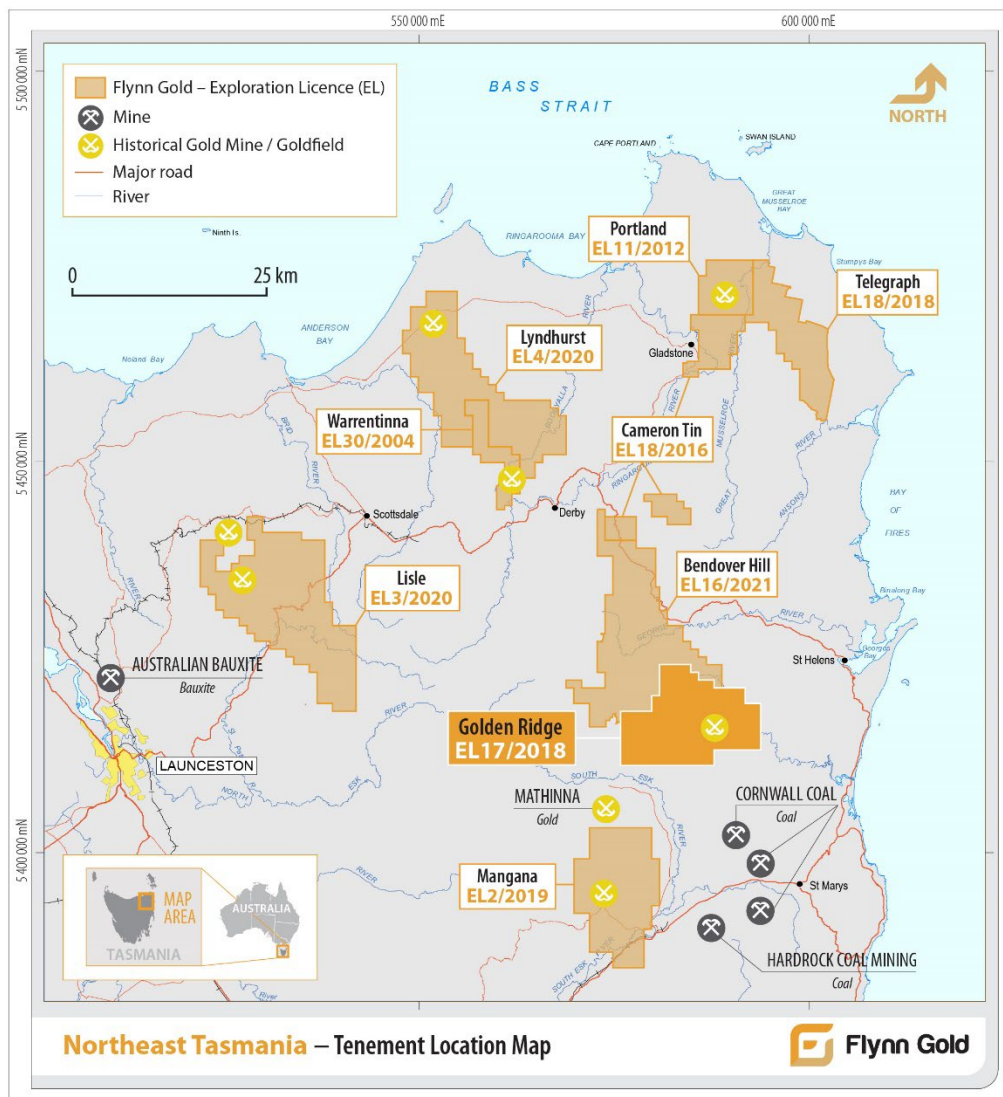
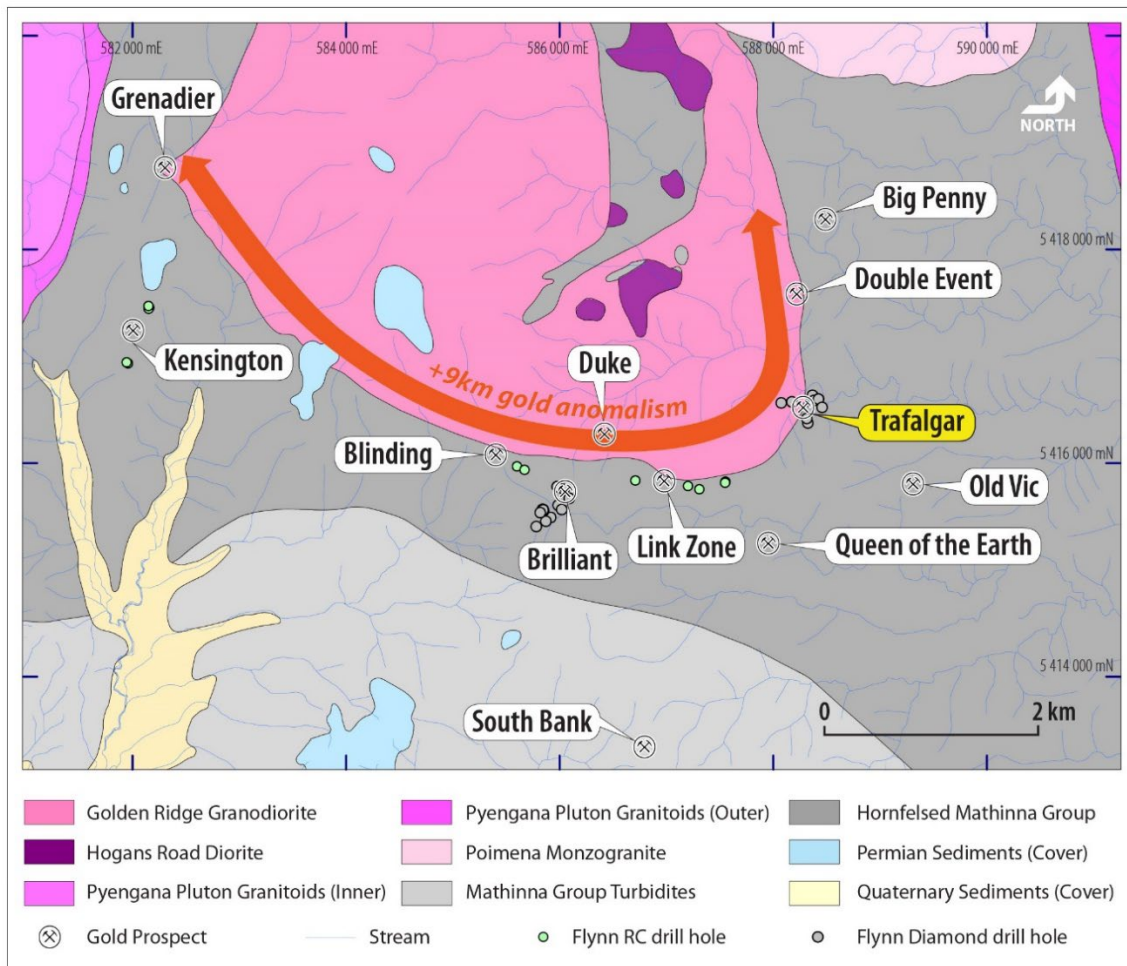

Figure 1 - Location of Flynn Gold tenements in NE Tasmania.
Figure 7 - Flynn Gold's Golden Ridge Project, NE Tasmania, showing prospect areas.
**Flynn Gold Limited (ASX: FG1, “Flynn” or “the Company”)** is pleased to announce the discovery of an extensive system of gold bearing quartz veins within historical workings located approximately 250m north of the historic Trafalgar Mine at its 100% owned Golden Ridge Project in Northeast Tasmania (see Figure 1).
The Company's flagship Golden Ridge Project is situated within EL17/2018 in Northeast Tasmania (see Figure 1). The Trafalgar Prospect, along with Flynn's Brilliant and Link Zone prospects occur within a 2.5km corridor of gold mineralisation that trends along a prospective granodiorite-metasediment contact. This corridor is contained in a broader zone of gold anomalism that forms around the contact of the Golden Ridge granodiorite intrusion with a total length exceeding 9km (see Figure 7).